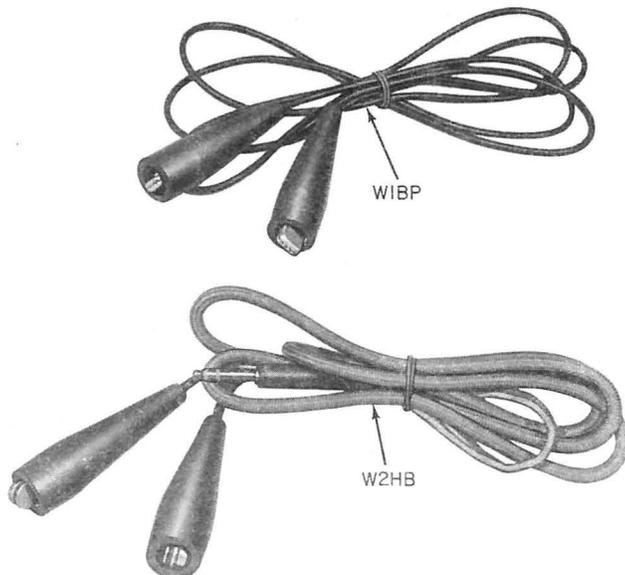

Fig. 3—Test Cords—W1BP and W2HB
2.18 The W1BP cord is shown in Fig. 3. It consists of two large Mueller clips connected by a single strand of instrument wire. There are insulators over each clip. This cord attaches between the GROUND post of the test set and the cable ground.
2.19 The W2HB cord shown in Fig. 3 is a multipurpose cord. It consists of a two-wire